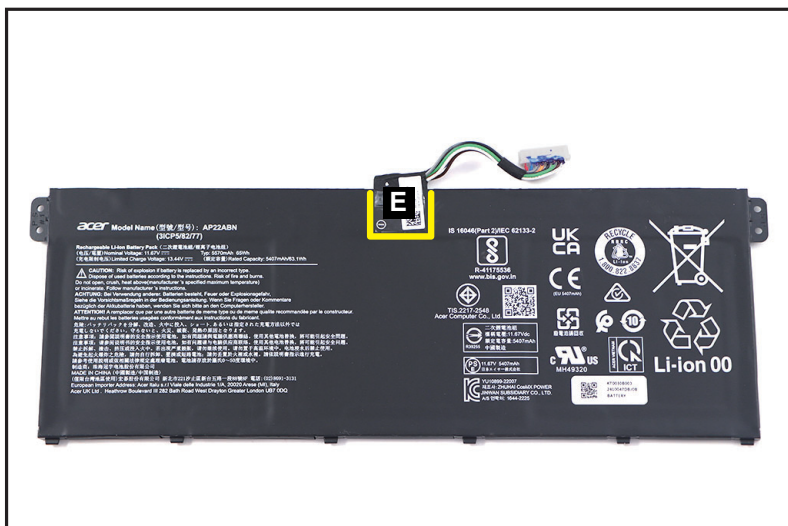

Figure 1-9. Battery Pack Removal
5. Detach the mylar tape (E) from the battery connector (Figure 1-9).